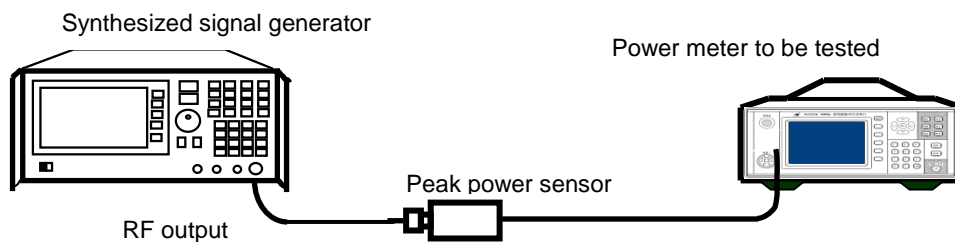

Fig. 8.2 Internal Trigger Test Block Diagram
- 1) Warm up the instrument for at least 30 min. After automatic calibration of the 2438PA/PB microwave power meter connected to a 81703X peak power sensor, connect the device as shown in Fig. 8.2.